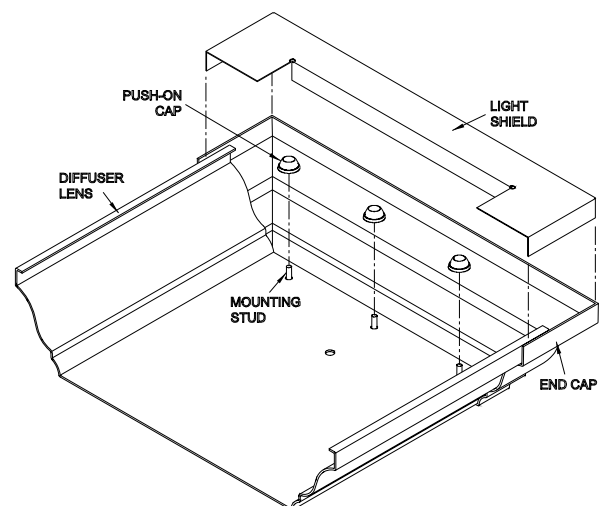

Fig. 11
**11. On a flat, sturdy surface,** insert the studs protruding from inside each endcap into the holes near the ends of the diffuser. Press push-on caps over the studs to secure the diffuser to the endcap. **See Figure 11.**
**12. Fold the edges of the (2) light shields** along the scored lines and install them in each endcap. **See Figure 11.**